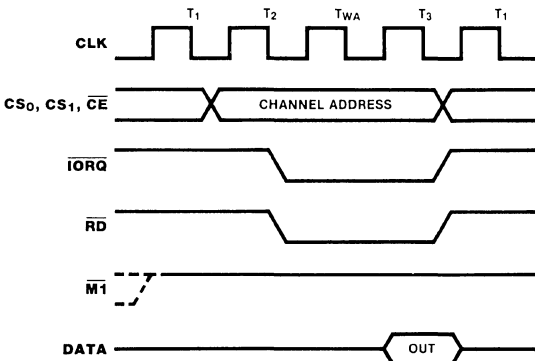

Figure 9. Read Cycle Timing
**Read Cycle Timing.** Figure 9 shows read cycle timing. This cycle reads the contents of a down-counter without disturbing the count. During clock cycle  $T_2$ , the Z80 CPU initiates a read cycle by driving the following inputs Low:  $\overline{RD}$ ,  $\overline{IORQ}$ , and  $\overline{CE}$ . A 2-bit binary code at inputs  $CS_1$  and  $CS_0$  selects the channel to be read.  $\overline{M1}$  must be High to distinguish this cycle from an interrupt acknowledge.  $\overline{M1}$  must be High to distinguish this cycle from an interrupt acknowledge.